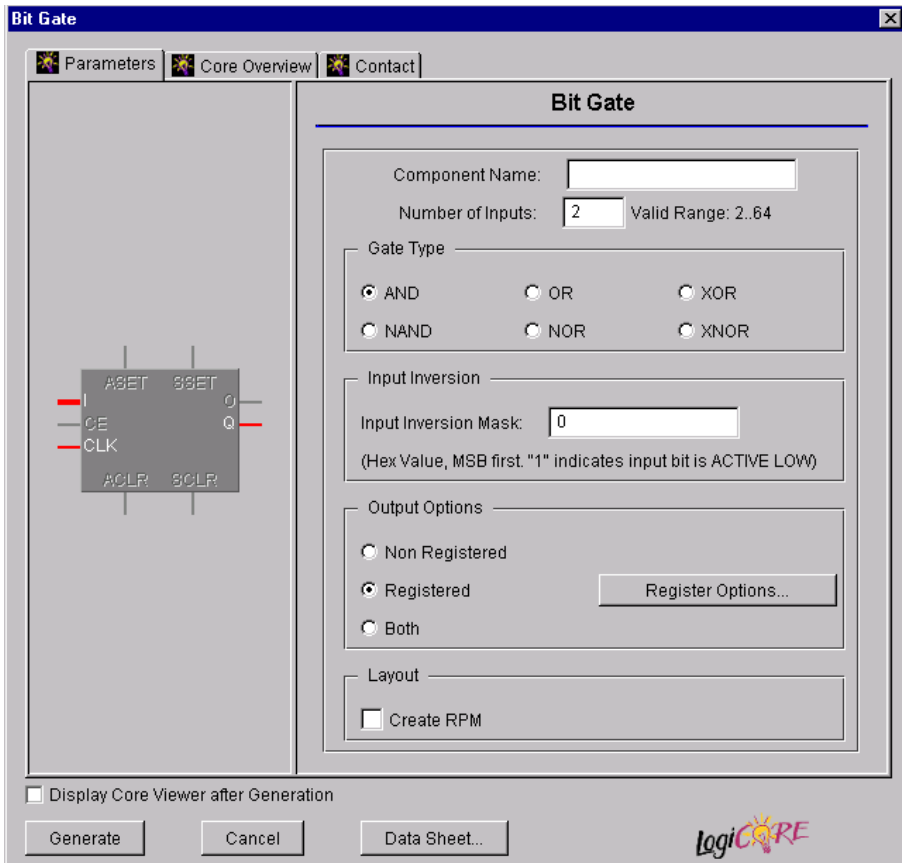

Figure 1: Main Gate Bit Parameterization Screen
- The main CORE Generator parameterization screen for this module is shown in Figure 1. The parameters are as follows: